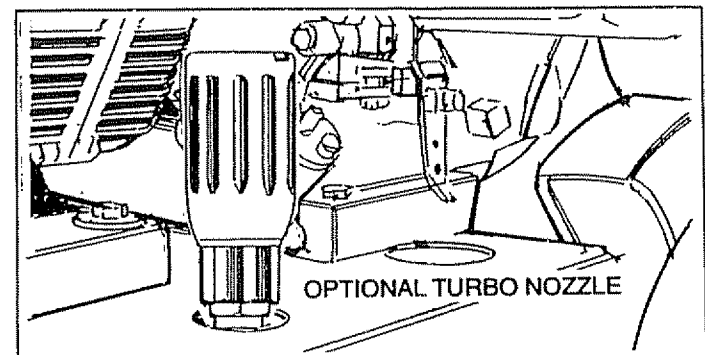

FIG. 17
- To attach the adjustable nozzle, refer to Operation section, Fig. 10.; to store optional turbo nozzle, refer to Operation section, Fig. 17.
A holder for the nozzles is included on the base. You can keep the adjustable nozzle in this holder (Fig. 17) or even the optional turbo nozzle.